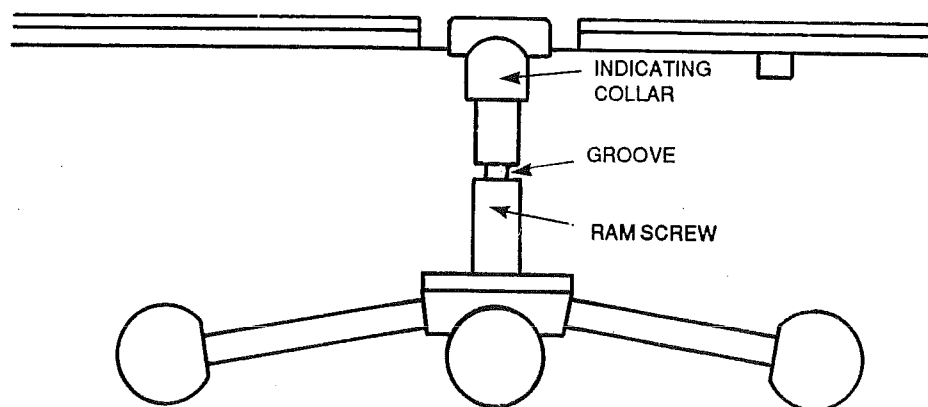

Fig 2 Ram reference groove (low pressure position)
(1) Ensure that the ram indicator groove is fully visible (see fig 2).
(1) Dependent on the weight selected, this condition may occur prior to engaging the high pressure mechanism (see fig 2).
(2) With the weights floating and spinning the pressure generated in the system is the pressure marked on the weights, multiplied by the machine constant, marked on the label fixed at the rear of the DWT, plus the weight carrier (corrected as in para 19 if required).